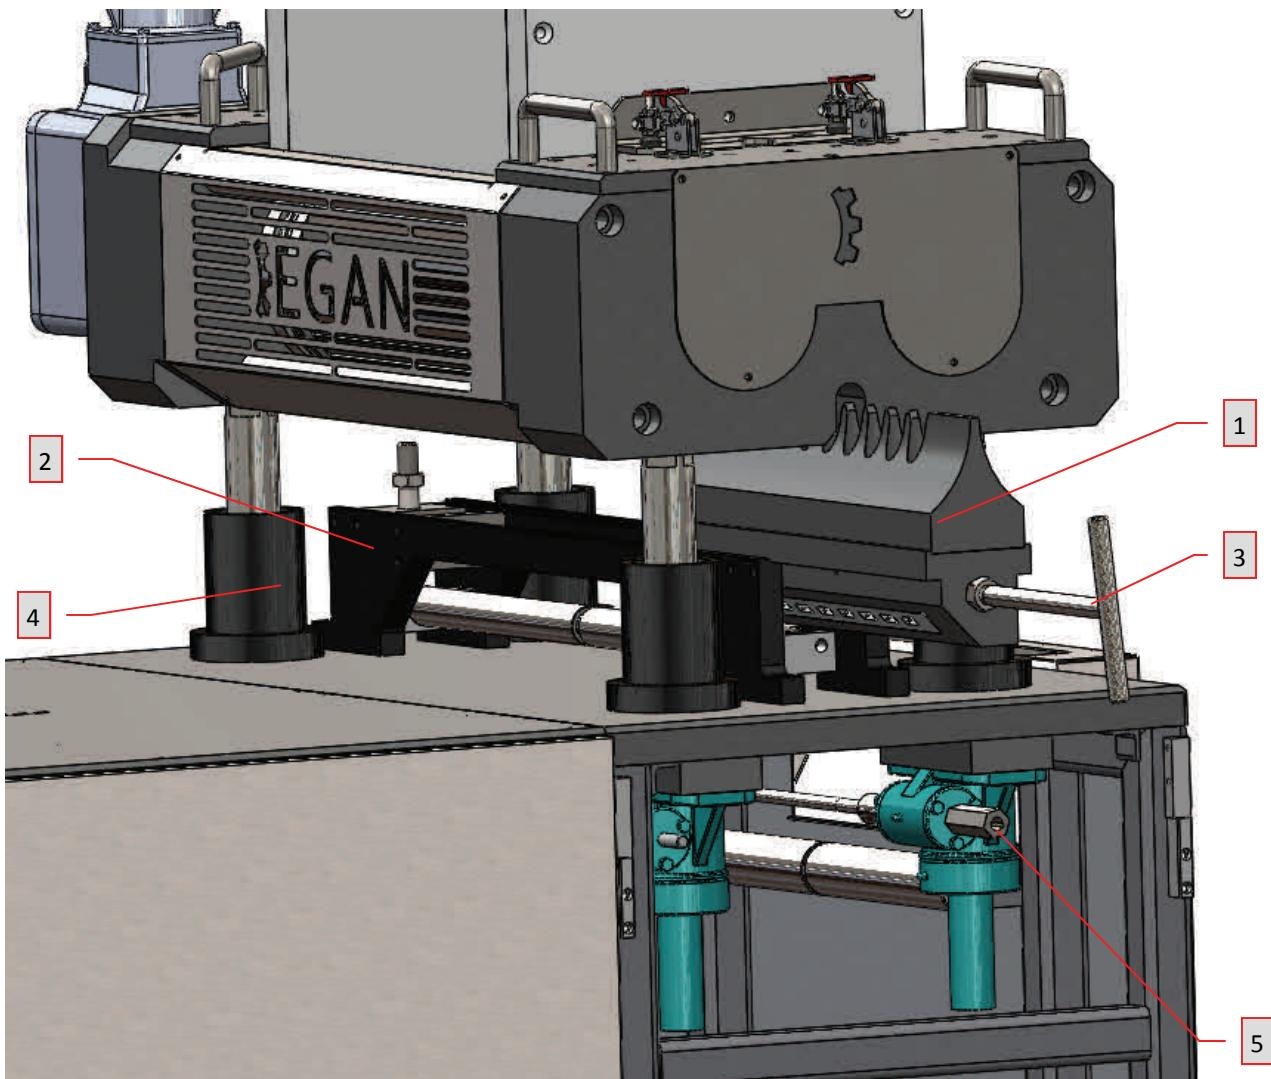

FIGURE 7—Detail of Jack Screw, Filler Block, and Die
3. **Filler Block and Die** – The filler block and die are located under the feed rolls on a support bridge. See Figures 7, 8 and 9 below for more detail.
5. **Jack Screws** – Four jack screws (two on each side) raise and lower the extruder head. Lowering the head clamps the filler block and die in place. Raising the head unclamps the filler block and die so that it can be slid out for changing or cleaning. A hand wheel that can be used raise and lower the jack screws is located on the cabinet below the conveyor. See Figure 7 for more detail.